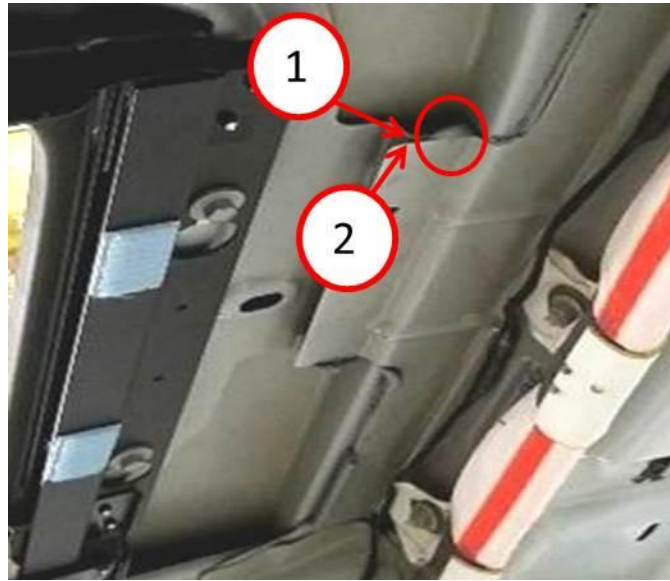

Fig. 2 Sealant Applied - Front
- Using a flat bladed tool or equivalent, smooth sealant bead (Fig. 2). Allow sealant to dry per manufacturers directions.